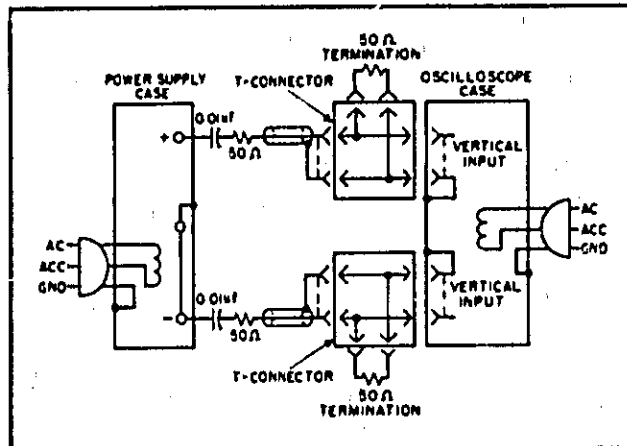

Figure 5-5. CV Noise Spike, Test Setup
1. As shown in Figure 5-5, two coax cables, must be substituted for the shielded two-wire cable.
5-27 The circuit of Figure 5-5 can also be used for the normal measurement of low frequency ripple and noise; simply remove the four terminating resistors and the blocking capacitors and substitute a higher gain vertical plug-in in place of the wideband plug-in required for spike measurements. Notice that with these changes, Figure 5-5 becomes a two-cable version of Figure 5-4C.